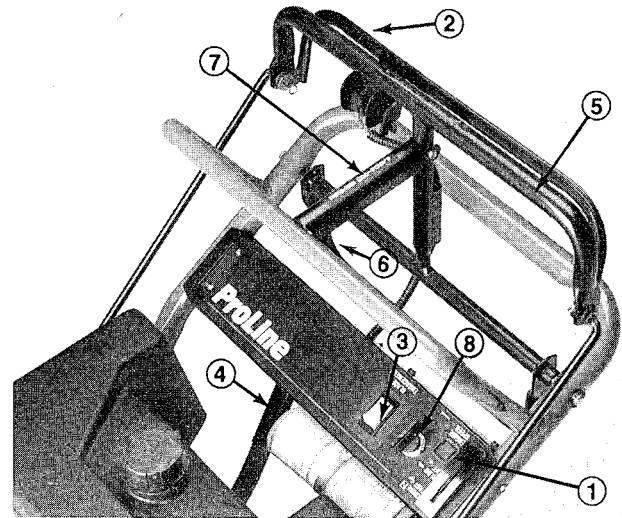

Figure 11
**Throttle Control (Fig. 11)** – The throttle control has three positions: CHOKE, FAST and SLOW.
**Deck Engagement Control Bail (Fig. 11)** – Control bail used in conjunction with deck engagement switch to release blade brake and engage electromagnetic clutch to drive deck pulleys. Release bail to disengage deck pulleys.
**Deck Engagement Switch (Fig. 11)** – Rocker switch used in conjunction with control bail to release blade brake and engage electromagnetic clutch to drive deck pulleys.
**Gear Shift Lever (Fig. 11)** – Transmission has four forward speeds, neutral and reverse, and has an in– line shift pattern. Do not shift while unit is moving, as transmission damage may occur.
**Upper Control Bar (Fig. 11)** – Shift to desired gear and push forward on control bar to engage forward traction operation and pull back to brake. Pull right side of control bar to turn right and left side to turn left.
**Lower Control Bar (Fig. 11)** – Shift transmission to reverse and pull rearward on lower control bar to engage rearward traction operation.
**Parking Brake Lever (Fig. 11)** – Pull back on upper control bar and swing brake lever up against the upper handle.
**Ignition Switch (Fig. 11)** – Key switch is used in conjunction with recoil starter. Switch has two positions: RUN and OFF.